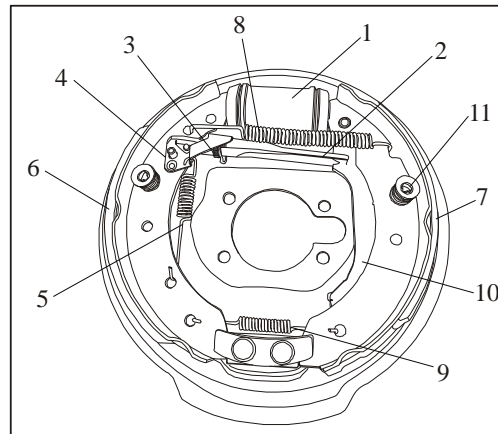

Fig.5-20 Construction of Rear Brake
- (7) Adopt a spring removing and installing caliper (see Fig.5-21b) to remove Springs 2 and 9 shown in Fig.5-20.
(8) Adopt a removing wrench (see Fig.5-21c) to remove limit dowel 11 (see Fig.5-20).
The braking clearance control device of rear brake (see Fig.5-20) consists of clearance toggle lever 4, clearance control nut 5, clearance toggle lever spring 6 and self-control lever 2.